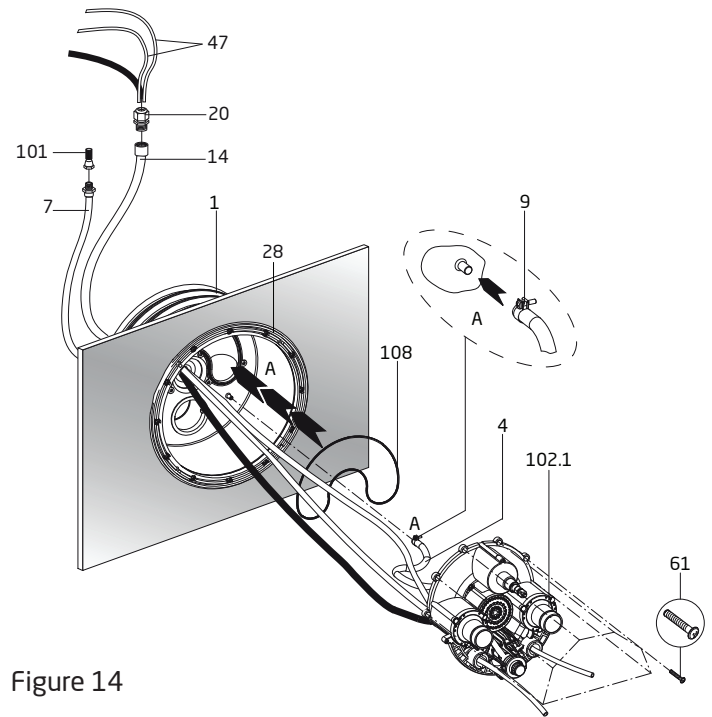
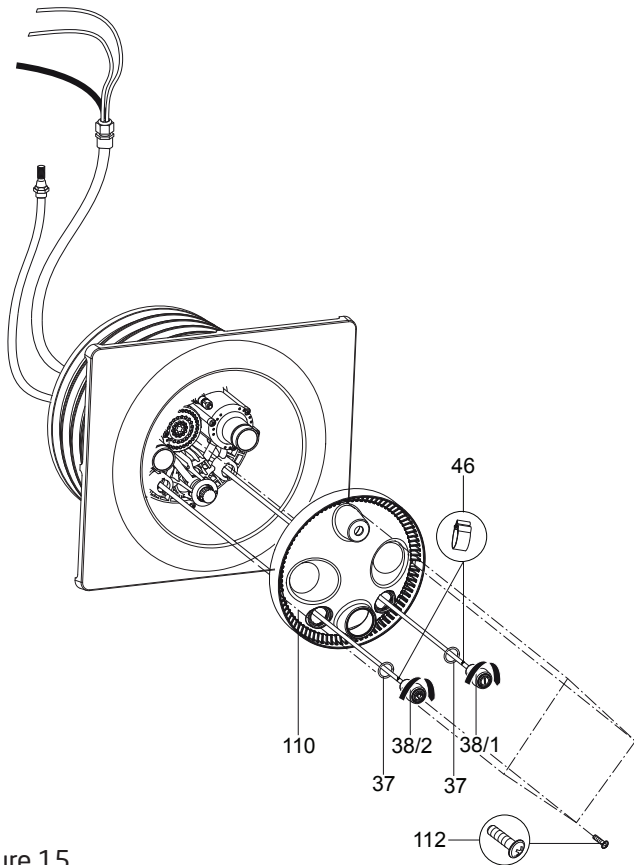
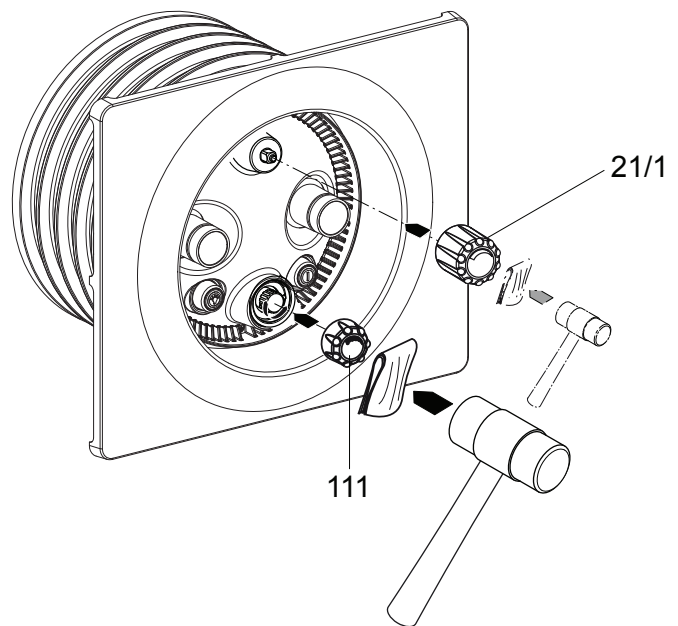

Figure 14
Figure 15
Figure 16
1. Insert the o-ring (part# 62) in the jet housing as shown in Figure 14.
2. Start the ten (10) nozzle housing tapping screws (part# 61) into the pre-assembled nozzle housing (part# 102.1). Place the nozzle housing at the main jet housing.
3. Feed both lengths of air tubing (part# 47) through the protective conduit as shown in Figure 14. Allow enough air tubing to reach the control box and air buttons. Excess can be trimmed upon installation. Mark each end with a marker. (P = Pump & L = Light.)
6. Align the complete nozzle housing to the main jet housing and fasten the ten (10) pre-assembled tapping screws. All screws should be **HAND TIGHT**. **DO NOT** use drills or pneumatic tools. **DO NOT** over tighten!
7. Place the rectangular cover (part# 93) against the clamping ring (part #28) and fasten with four (4) 8.4mm washers (part# 94) and four (4) M8 x 20 machine screws (part# 95) and cover the openings with the rectangular covers (part# 96). All screws should be **HAND TIGHT**. **DO NOT** use drills or pneumatic tools. **DO NOT** over tighten! Make sure the UP label is in the correct position.
8. Guide the air tubing through the two (2) bottom openings of the light cover (part# 110).
*NOTE: Light ON/OFF button is on the left and the pump ON/OFF button is on the right. Align the light cover with the nozzle housing and secure with four (4) light cover tapping screws (part# 112). (See Figure 15)*
9. Slide one (1) o-ring (part# 37) onto each air button. Fasten each length of air tubing to the corresponding buttons using the hose clamps (part# 48). Insert the two (2) air buttons through the light cover and into the nozzle housing and lock them by turning them clockwise until they 'click' into place.
10. Mount the volume control knob (part #21.1) and air regulator knob (part #111) by means of a rubber mallet and a protective cloth. (See Figure 16)